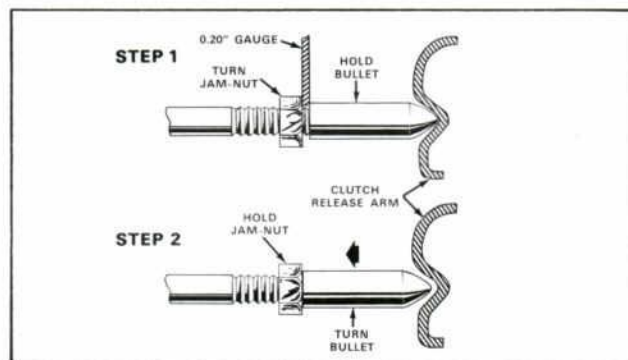

FIG. 3—ADJUSTING CLUTCH RELEASE ROD
3. With the bullet lightly contacting the clutch arm, hold a 0.20" gauge against the flat shoulder at the rear of the bullet. See Fig. 3, Step 1.
5. Now remove the gauge, hold the jam-nut from turning out of position, and thread the bullet back against the jam-nut. See Fig. 3, Step 2.